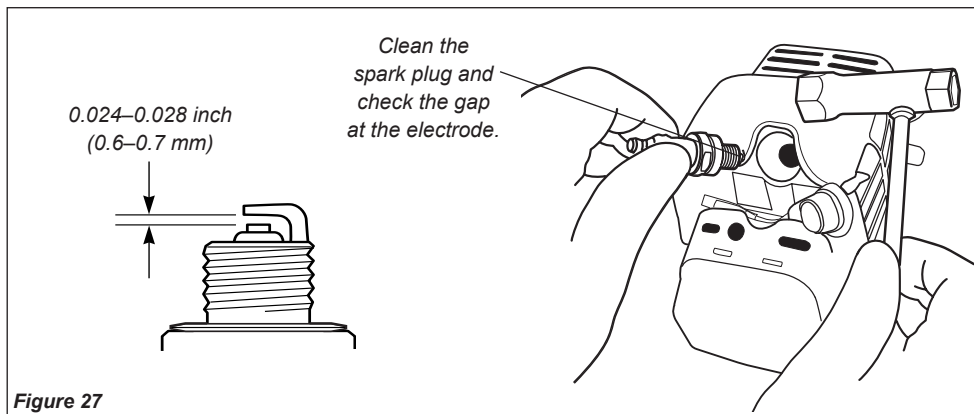

Figure 27
- Remove and clean the spark plug. Adjust the spark plug electrode gap to 0.024–0.028 inch (0.6–0.7 mm). If the spark plug must be replaced, use only an BPMR6A or equivalent resistor type spark plug of the correct heat range. See Figure 27.